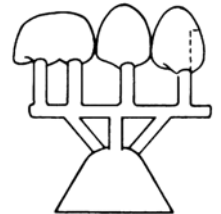

Fig. 29
2. Sprue the waxed unit and draw it off the model (Fig. 29).